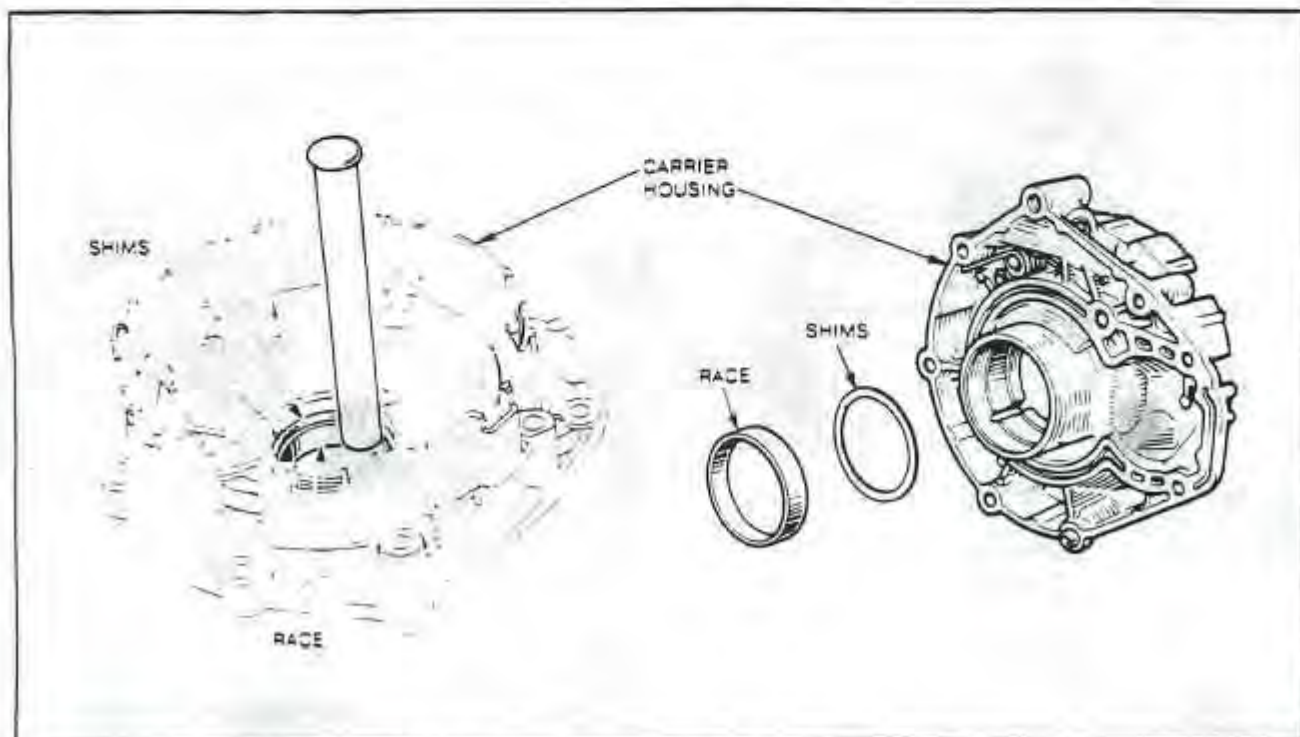

Fig. 72 PLANETARY CARRIER CLEARANCE SHIMS
8. Remove the outer bearing race and planetary carrier shims from the housing using a brass drift. Retain the shims for reassembly. *Fig. 72*
7. Fit the bearing race planetary carrier clearance shims (removed during disassembly) and the bearing outer race in the housing. Ensure that the race is fully seated. *Fig. 72*